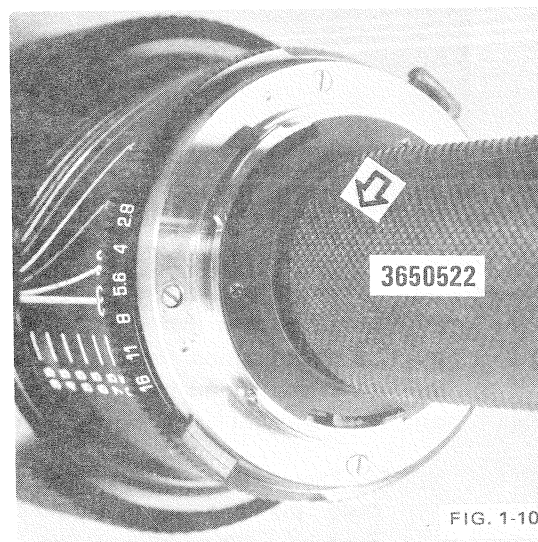

FIG. 1-10
- a) Place tool over rear of lens group. Tighten wing nut; unscrew lens and remove it. Fig. 1-10.